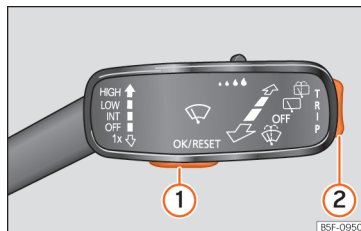

Fig.78 Wiper lever: control keys.
As long as a priority 1 »» page 74 warning is active, it will not be possible to access any menu. Some warnings can be confirmed and hidden with the button »» Fig. 78 ①.